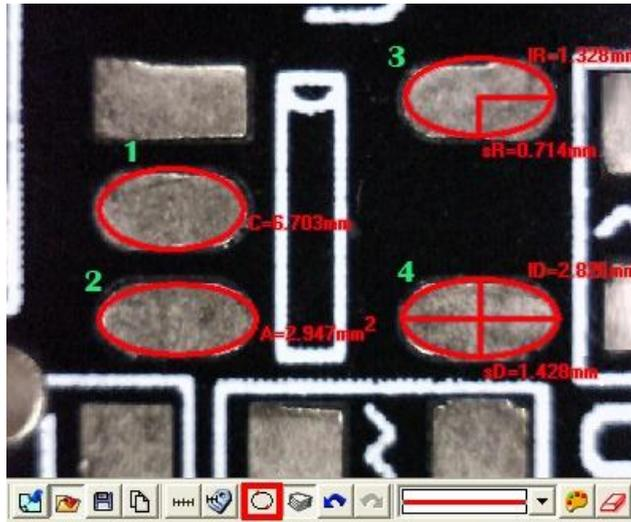

Fig 5-67 Oval
- (4) Oval: Measure an oval circle and use . Firstly choose Fig.5-67 Scale information setting dialog. To point any dot on an oval, pressing the left mouse button, and drag to fit the oval on an observation object. Same methods as Circle to be measured for 2 Points Circle and 3 Points Circle, 1st oval C=6.703mm, 2nd oval A=2.947mm², 3rd oval: IR=1.328mm, sR=0.714mm, 4th oval ID=2.826mm, sD=1.428mm.